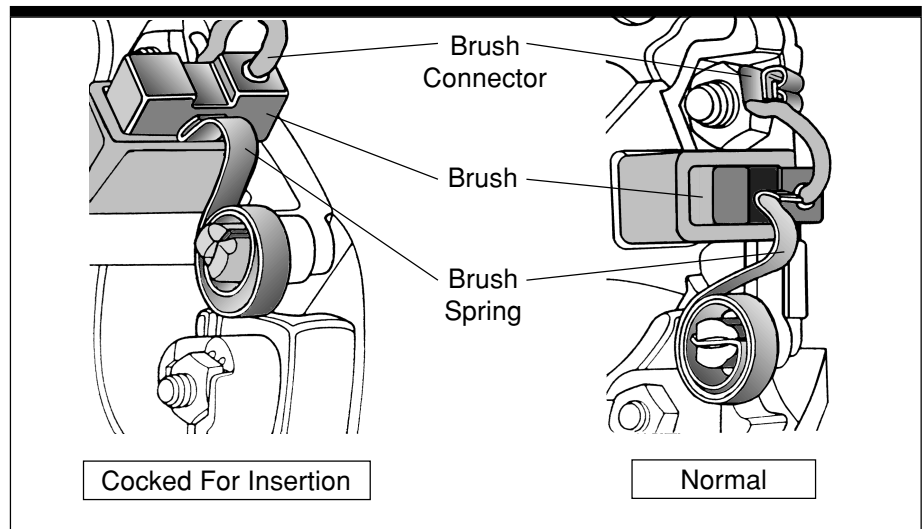

Figure 4-5. DC Motor Brushes (Gasketed Cover Removed)
Step 4—Replace Brushes. Lift the brush spring from the end of the brush (see Figure 4-5). Remove the brush connector, withdraw the brush and inspect the length. To prevent motor damage, brushes should be replaced when or before they reach the half way point. Reverse procedure to replace brush. Replace motor access and feeder covers. Connect power and air. Initial and date the Maintenance Log.